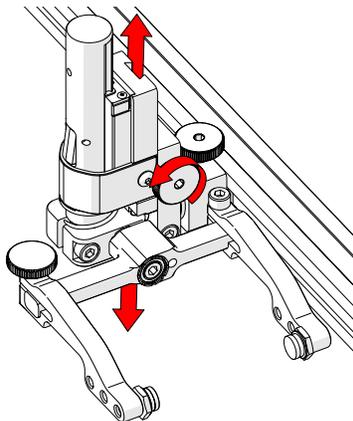

Fig. 44 - Vertical adjustment
2. The vertical adjustment knob allows the vertical probe holder height adjustment (Fig. 44).